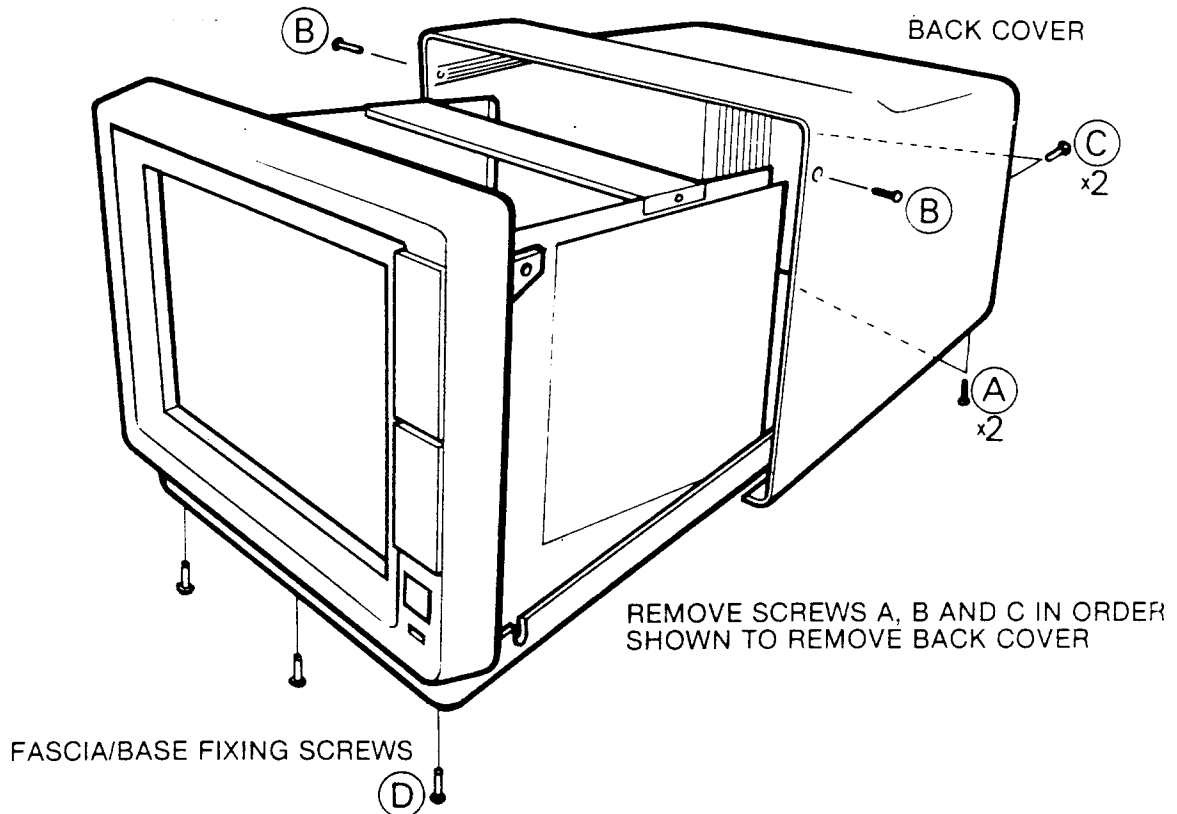

FIG F2 F SERIES FIXING SCREW LOCATIONS
1. To provide service access to the Main Chassis and Drive/Deflection PCB Assembly - refer to Figure F2, F Series: Input Bracket.
a) Unscrew one turn only - 2 x Fixing Screws (A) located on the bottom inside flange of the Input Bracket.
b) Detach: 2 x Fixing Screws (B) from top ends of Input Bracket securing bracket to chassis.
- a) Unscrew fixing screw locating into the screwed bush at the top left-hand Stabilizer Bracket fixing point, item (7).
- b) Remove the two fixing Screws securing the R/H front of the Chassis Main Frame, item (4) to the Customer Controls Bracket, item (6).
5. Refer to Figure F2, F Series: Cabinet Fixing Screw Locations.
- a) Support the Chassis Main Frame. Remove three fascia/base fixing screws (D).